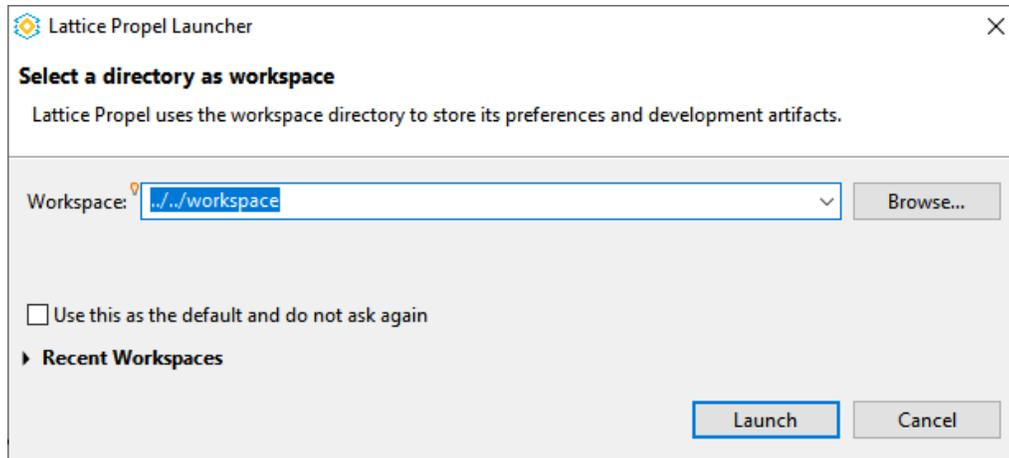

Figure 2.109. Lattice Propel Launcher Wizard
1. Click the **Run Propel** icon  from Propel Builder GUI Toolbar. Lattice Propel Launcher (Figure 2.109) opens.